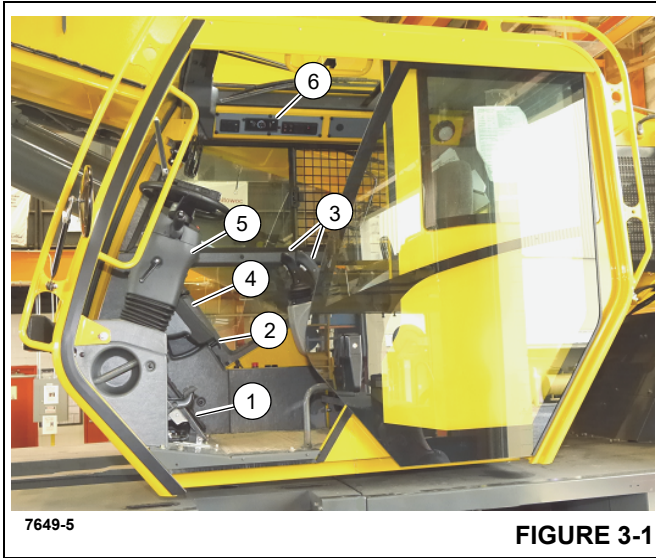
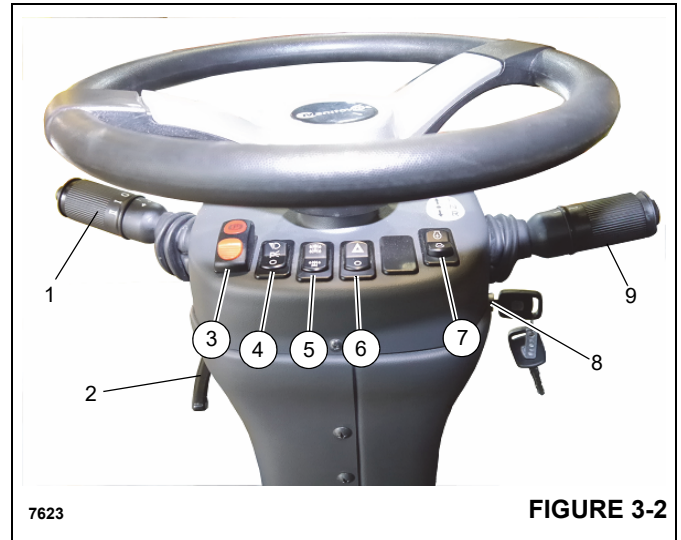

FIGURE 3-1
FIGURE 3-2
All controls and indicators to operate and monitor crane functions are found inside the crane cab (Figure 3-1).
The steering column assembly (5) (Figure 3-1) is a pedestal style tilt and telescoping steering column. It can tilt rearward 30° or raise vertically 60 mm (2.3 in). It includes the ignition switch and other control switches (Figure 3-2).
Turn Signal Lever and Windshield Wiper/washer Controls (1) Figure 3-2 are located on left side of steering column. Pushing turn signal lever down causes left front and left rear turn signals to flash. Pushing turn signal lever up causes right front and right rear turn signals to flash.
The steering control column can be rotated rearward approximately 30° and raised approximately 60 mm (2.3 in). Rotate control lever (2) Figure 3-2 down to lock steering column in place. Rotating lever up releases steering column for adjustment.
Park Brake Control Switch (3) Figure 3-2 is located on front of steering column. This two-position rocker switch (ON/OFF) is used to apply and release the parking brake on the drive line. The red Park Brake Indicator light on the display is illuminated when pressure switch in the brake release system is activated and brake is applied.
The Headlights Switch (4) Figure 3-2 is located on the front of the steering column. This three-position rocker switch (OFF/Park/Headlight) controls operation of the instrument lights, switch LED's, and the marker lights on the front, rear, and side of the crane. The switch is illuminated when the key is in the ON or Start position.
Drive Axle Selector Switch (5) Figure 3-2 is located on front of the steering column and is illuminated when key is in the ON or Start position. This two-position rocker switch is used to select two-wheel drive (high range) or four-wheel drive (low range).
Hazard Lights Switch (6) Figure 3-2 is located on front of the steering column and is a two-position rocker switch
The Increment/Decrement Switch (7) (Figure 3-2) is a three position momentary rocker switch with center maintained position being off. Use this switch to adjust engine speed (RPM). Press top or bottom of the Increment/Decrement Switch to increase or decrease low engine idle.
The Ignition Switch (8) Figure 3-2 is located on the right side of the steering column and under the transmission shift lever (9). The switch is key-operated and has three positions: OFF [0], RUN [1], and START [2].
The Transmission Shift Lever (9) Figure 3-2 is located on the right side of the steering column. The control lever operates the transmission selector valve electrically. Positioning the